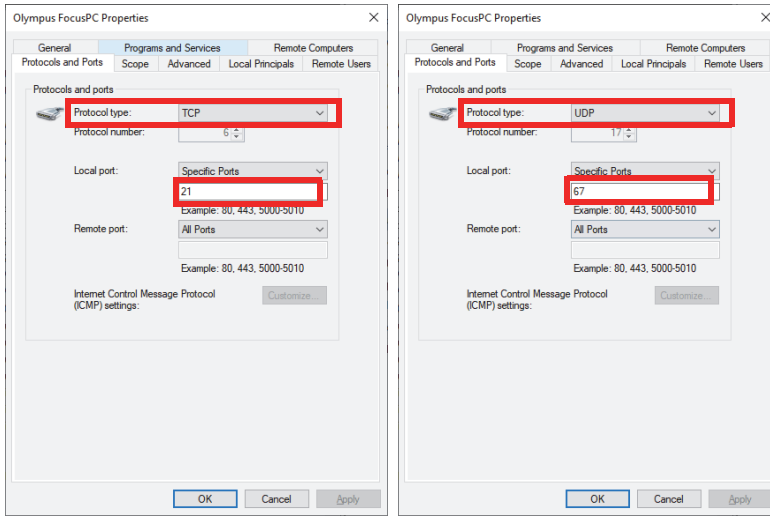
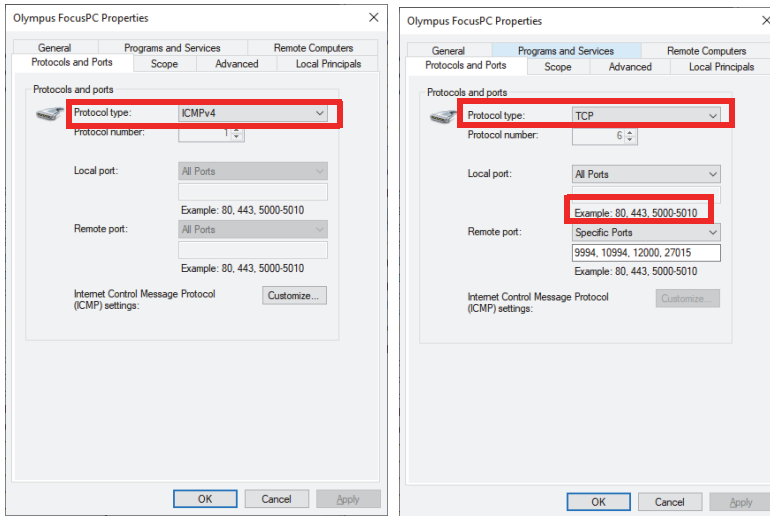
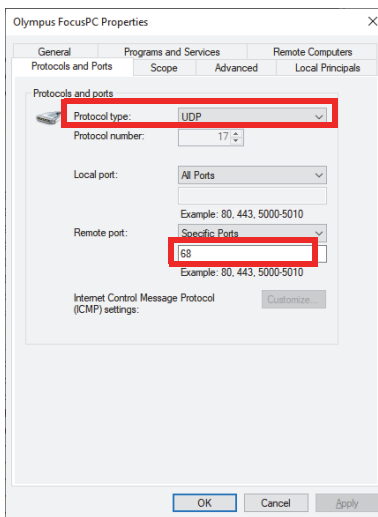

Figure 1-13 Protocol type – inbound rule TCP 21 and UDP 67
Figure 1-14 Protocol type – outbound rule ICMPv4 and TCP
Figure 1-15 Protocol type – outbound rule UDP 68
7. Configure the port with the parameters shown in Figure 1-13 on page 34, Figure 1-14 on page 34, and Figure 1-15 on page 35.